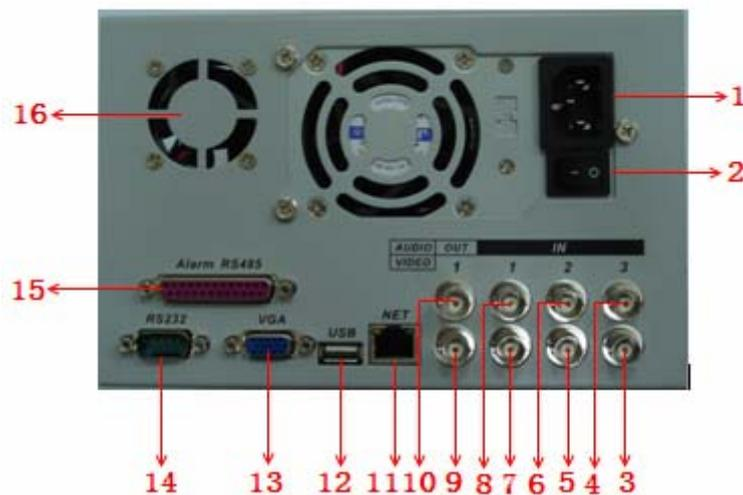

Figure 2-3
Please refer to Figure 2-3 for MB (D)/AL series DVR real panel information .